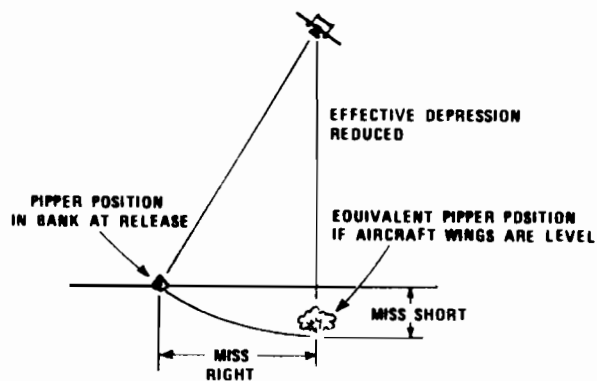

Figure 6-13
f. Releasing in a bank. If release is made in a bank with the piper on the target, the bank, through pendulum effect, will reduce the effective sight depression. This will result in a short impact and a lateral error in the direction of bank (Figure 6-13).